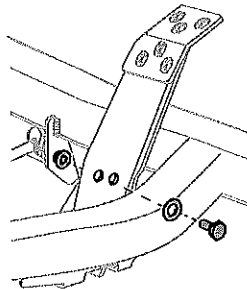

Figure 37
2. Remove the hex bolt, washer and hex nut near the center of the pedal assembly. See Figure 37.
4. Reinstall the hardware previously removed and torque the nut to 28-35 ft-lbs (38-47 N-m). See Figure 37.